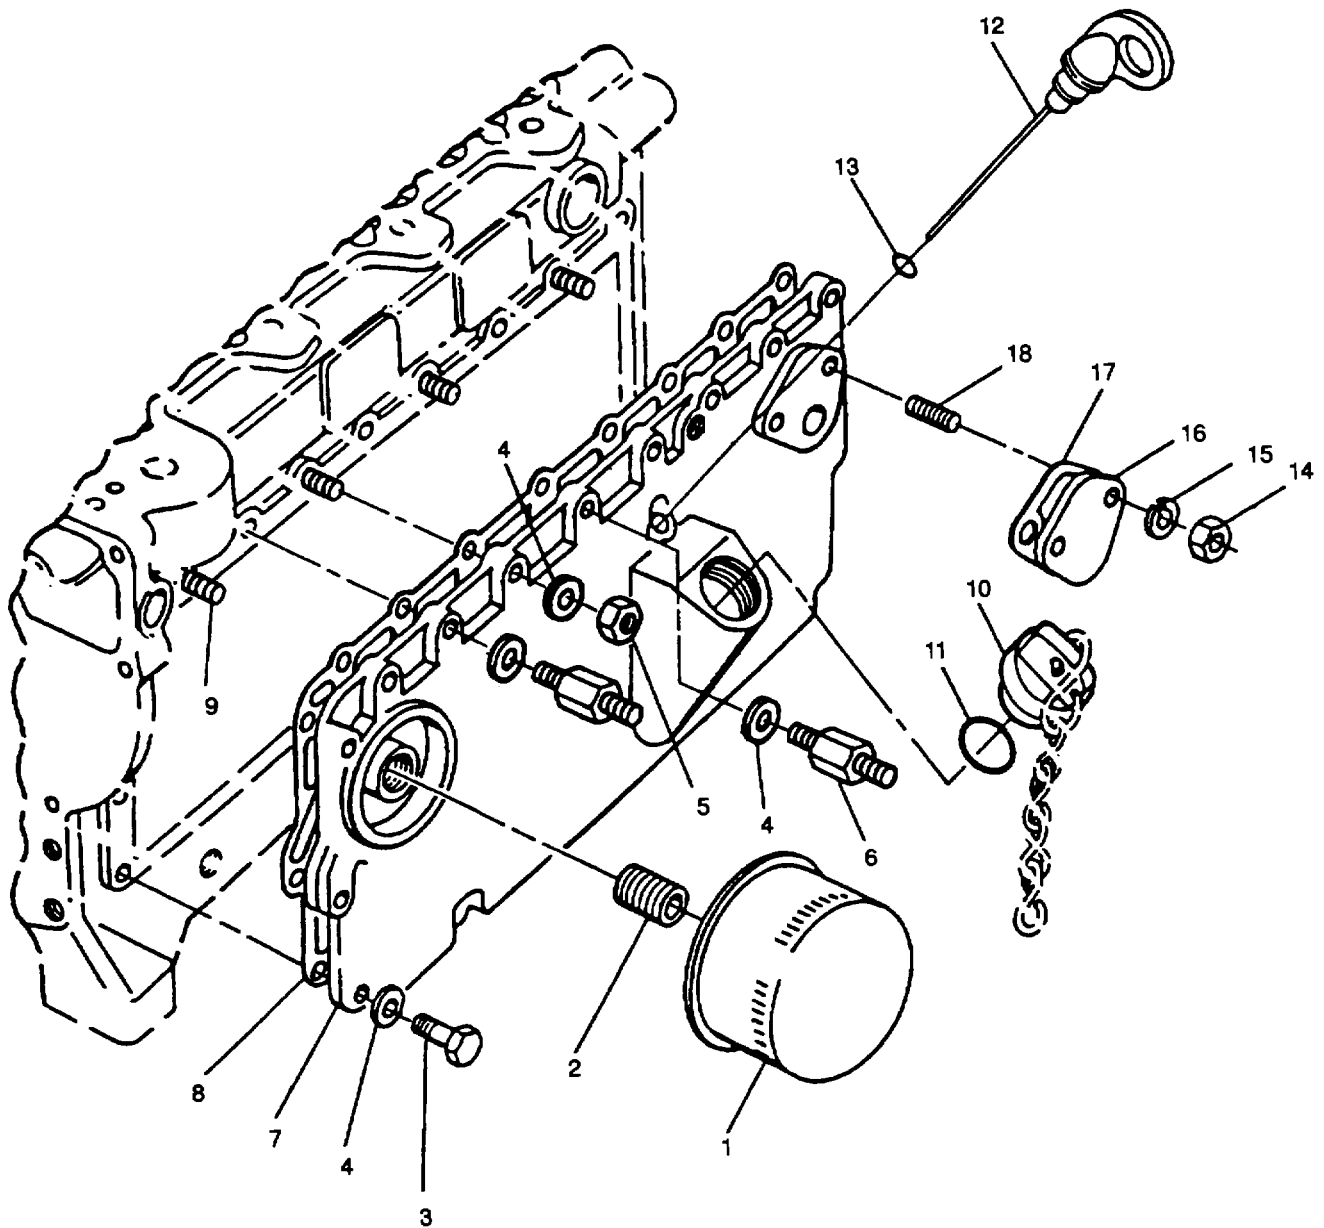

FIGURE 3-15. Oil Filter and Crankcase Door
- b. Loosen cartridge (1, FIGURE 3-15) by turning counterclockwise with a filter wrench.
- e. Apply light coat of engine lubricating oil (MIL-L-2104) to new cartridge (1) gasket.
- f. Place cartridge on adapter (2) and turn clockwise until cartridge is hand tight.
- d. Remove thirteen bolts (3, FIGURE 3-15) four nuts (5), two stand off studs (6), and nineteen washers (4) securing crankcase door (7) to crankcase; remove door (7) and gasket (8). Discard gasket.
- e. If damaged, remove tappet studs (9) from engine.
- b. Remove adapter (2, FIGURE 3-15).
- c. Remove oil filler cap (10) and preformed packing (11) Discard preformed packing.
- d. Remove dipstick (12) and remove preformed packing (13) from dipstick. Discard preformed packing.
- e. Remove two nuts (14) and lockwashers (15) securing plate (16); remove plate (16) and gasket (17). Discard lockwasher (15) and gasket (17).
- f. Remove two studs (18).
- g. Install two studs (18).
- h. Position new gasket (17) and plate (16) on studs (18) and secure with two nuts (14) and new lockwashers (15).
- i. Install new preformed packing (13) on dipstick (12) and install dipstick.
- j. Install new preformed packing (11) on oil filler cap (10) and install cap.
- k. Install adapter (2).
- a. Inspect dipstick (12, FIGURE 3-15) for legibility. Replace if damaged.
- c. Inspect crankcase door (7) for cracks, dents, or other damage. Replace if damaged.
- d. Inspect adapter (2) for thread damage and replace as necessary.
- b. If removed, install tappet studs (9, FIGURE 3-15) in engine block Refer to FIGURE 3-8 for proper alignment with tappet slot and tappet movement.